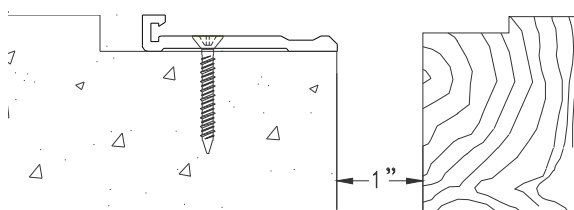

Figure 6
STEP 8. Select the fasteners for the base member subchannel. Place the base member back into its installed position in the blockout, and attach the base member to the concrete, using the anchors provided by the factory (see Figure 6). Repeat Step 6 through Step 9 for each section of the base member subchannel.